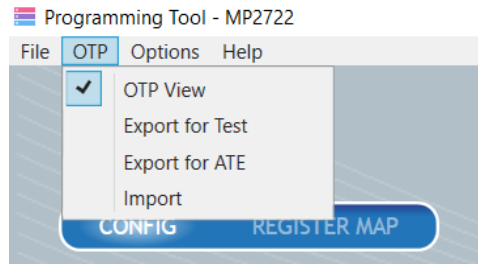

Figure 10: Select OTP View, Located in Toolbar
3. Select “OTP View” in the toolbar (see Figure 10).